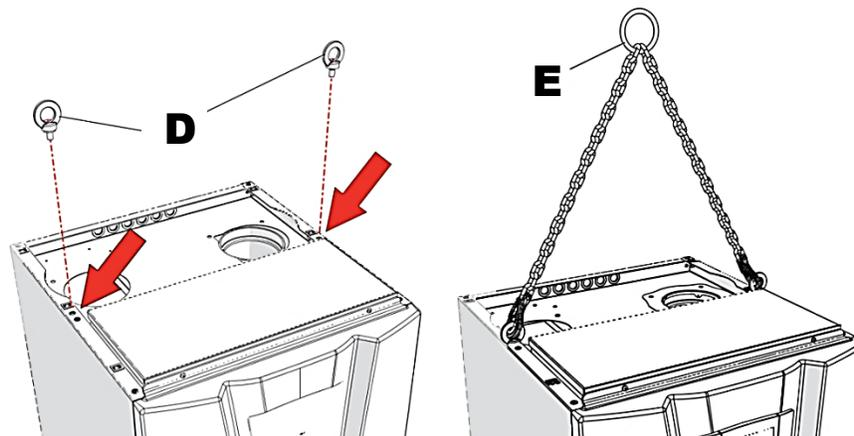

Figure 3-6: Removing the Unit from Wood Pallet (Lifting)
4. Install the two factory supplied eyebolts “D” on the upper side of the unit and attach chains or straps to lifting ring/hook “E” as shown in Figure 3-6.